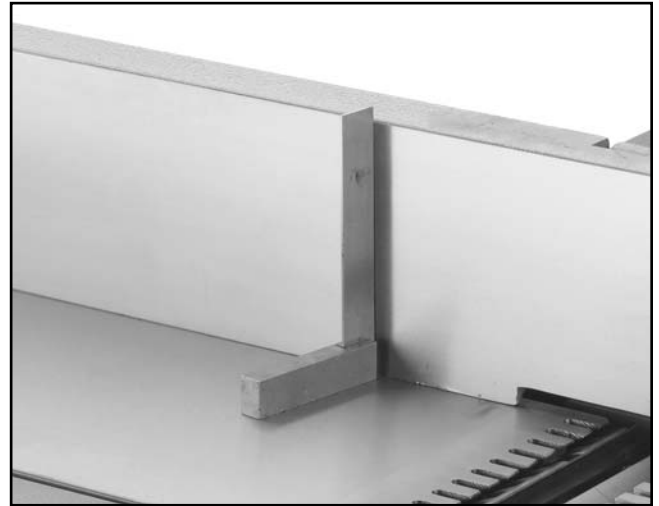

Figure 14. Use of square to align fence.
1. Place a square on the outfeed table fairly close to the cutterhead as shown in **Figure 14**.